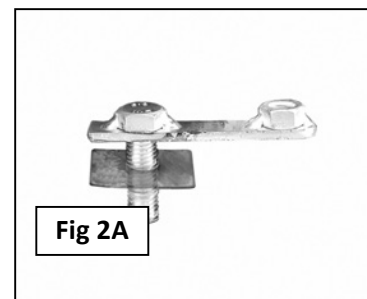

Fig 2A
- Starting at the driver side-front of the vehicle, remove the sealing tape covering the factory holes on the side of the inner panel, **(Figure 1A, 1B, 1C)**. Partially thread (1) 12mm Plastic Retainer onto the threaded end of (1) 12mm Bolt and Nut Plate, **(Figure 2A)**. Insert the Bolt and Nut Plate into the factory oval hole. Continue to thread the Plastic Retainer down the Bolt and Nut Plate until it is flush against the sheet metal, **(Figure 2B)**. **NOTE:** When properly installed, the Plastic Retainer is designed to prevent the Bolt and Nut Plate from falling into the body cavity during installation.